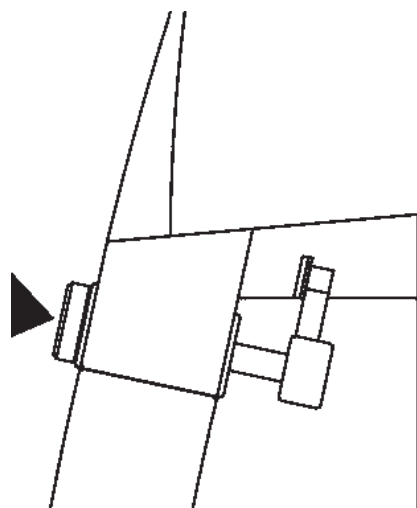

Figure 3.0-4
3. To lock: push the button firmly with the thumb (Fig. 3.0-4).